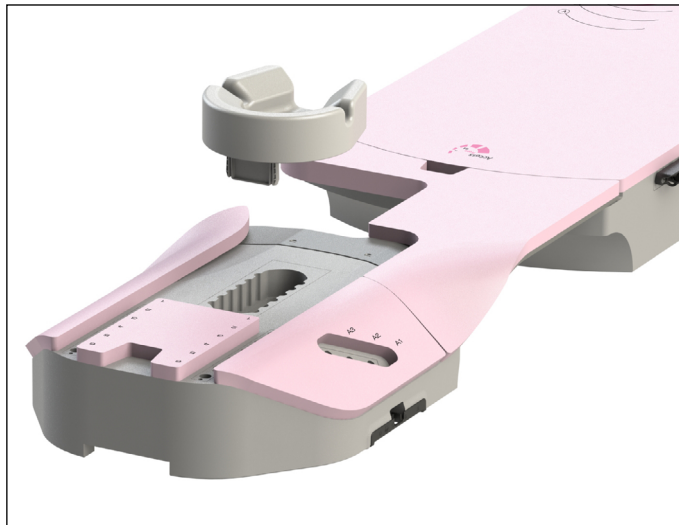

Fig. 11
2. Insert the plastic alignment piece into the appropriate slot at the superior end of the device. (Fig. 11)